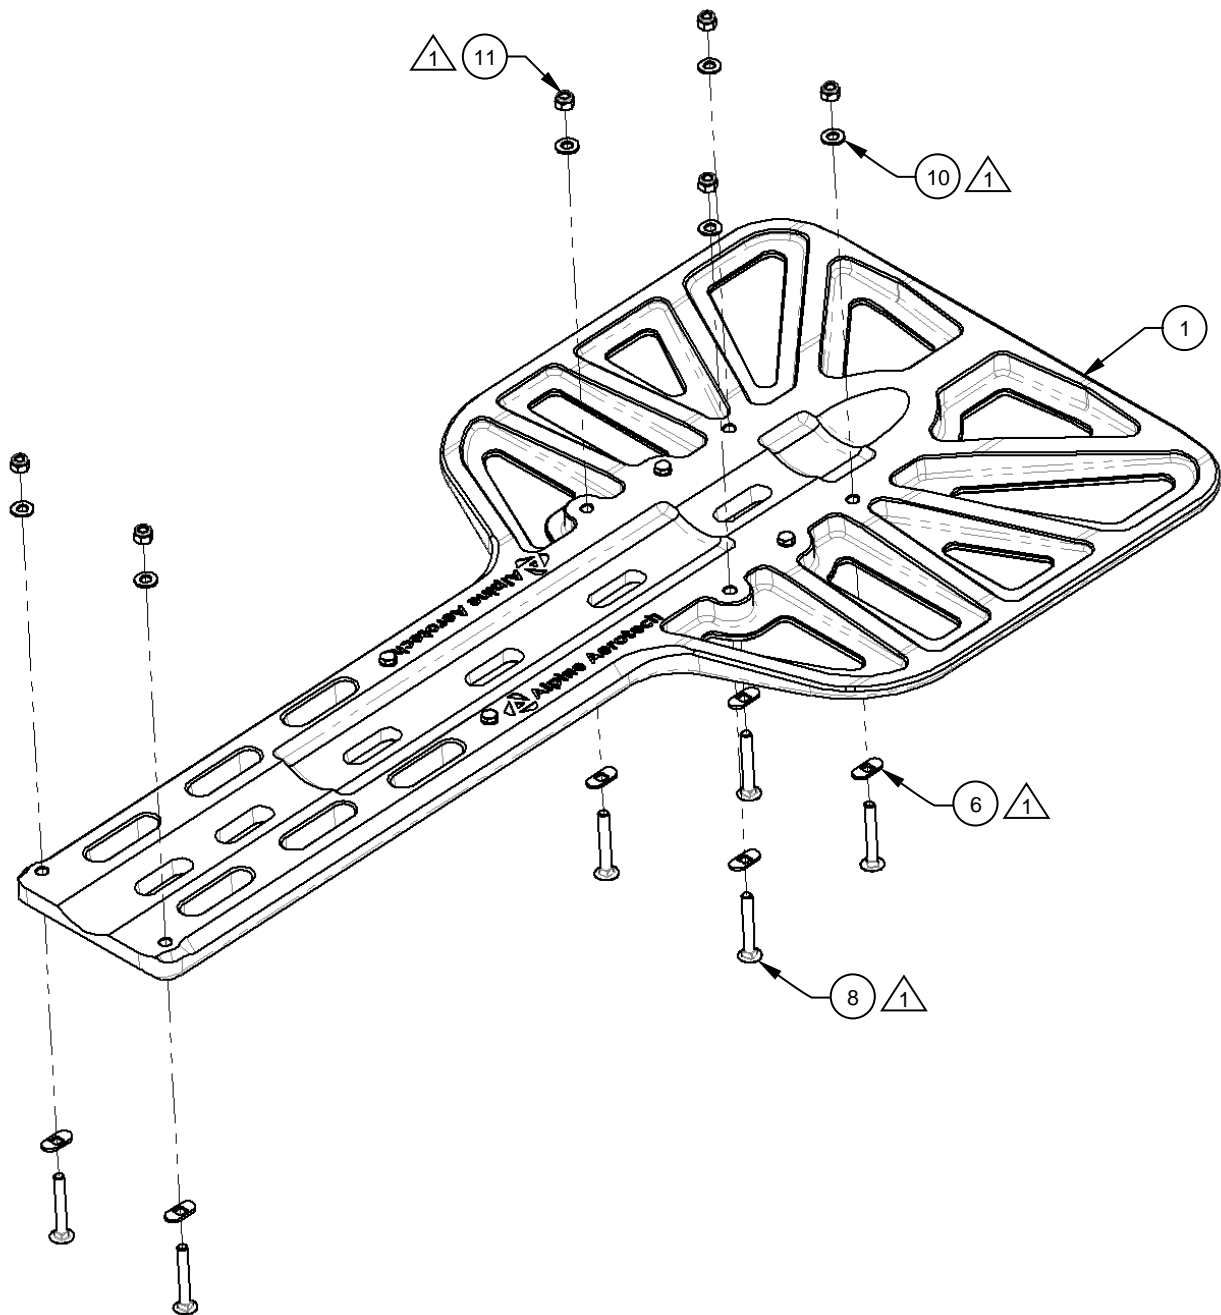

Figure 2
2. Install the supplied hardware on the Bear Paw, Detail (Item 1) as shown. Reference Figure 2.